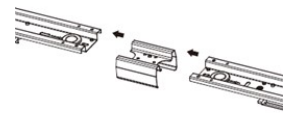

Fig 2.
4. The Straight coupler installation is as shown in Fig 2. and applicable where straight linked runs are required